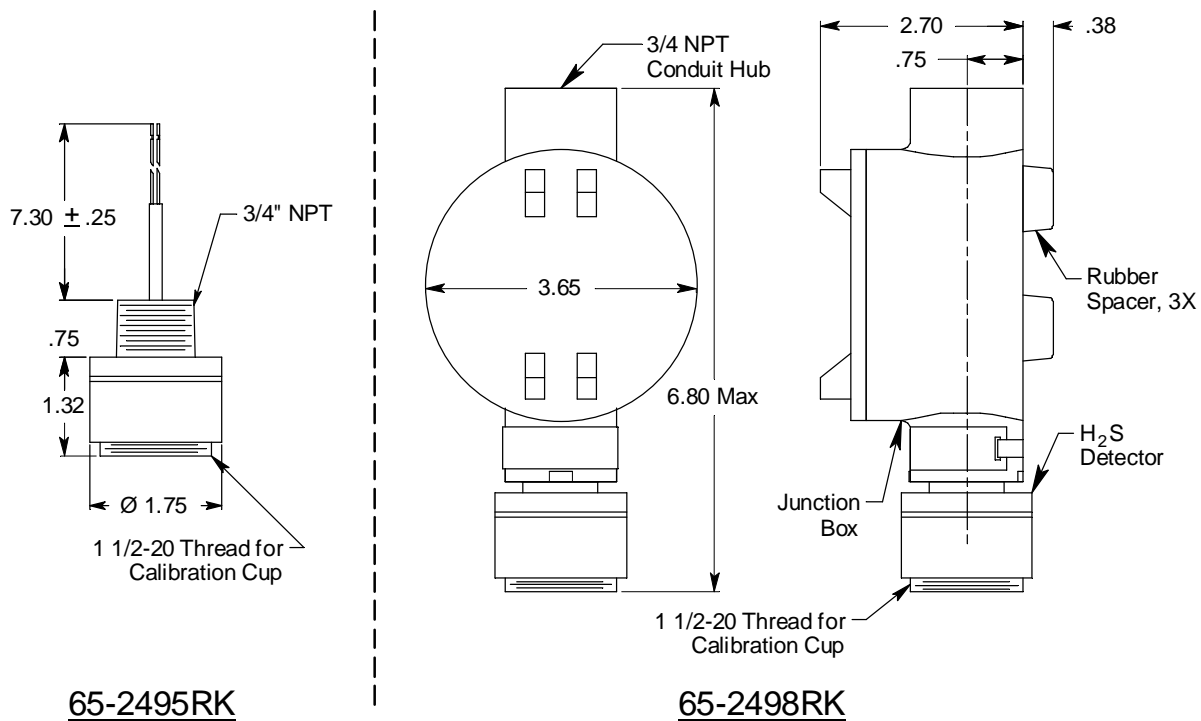

Figure 3: Outline & Mounting Dimensions, 65-2495RK & 65-2498RK
NOTE: If you are installing a 65-2495RK, it does not include a junction box and is usually factory installed in one of a controller's conduit hubs or may be field installed using the 3/4" NPT threads on the end with the wires. The 65-2498RK includes a junction box as shown in Figure 3 below.
2. At the mounting site you select, hang or mount the junction box with the detector facing down (see Figure 3).
CAUTION: Mount the H₂S detector with the detector facing down (see Figure 3.)